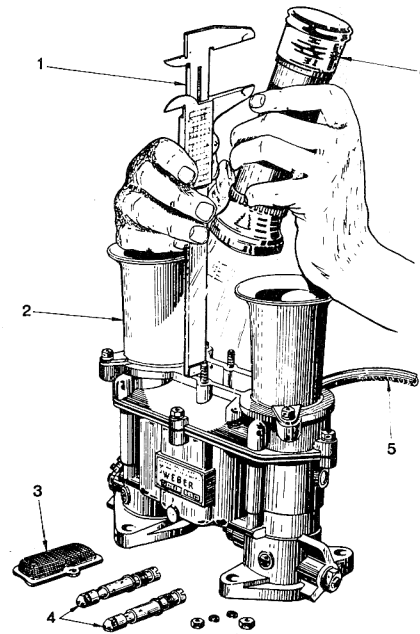

FIG. 45
b) Inside the well, after having removed the air jet and emulsion tube, by a Vernier calliper **1** and flash-light **6**, as shown in **Fig. 45**.
15) Flared air horn extensions - Fig. 45